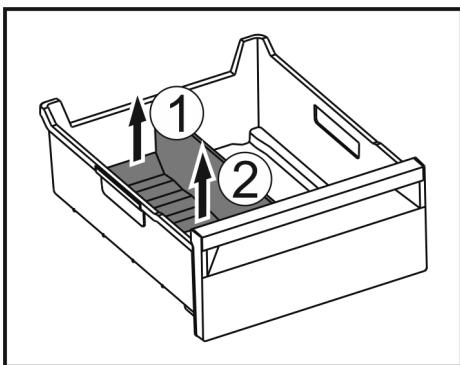

Fig. 106
- ▶ Lift the rear part of the ice compartment divider. Fig. 106 (1)
- ▶ Remove the ice compartment divider upwards. Fig. 106 (2)